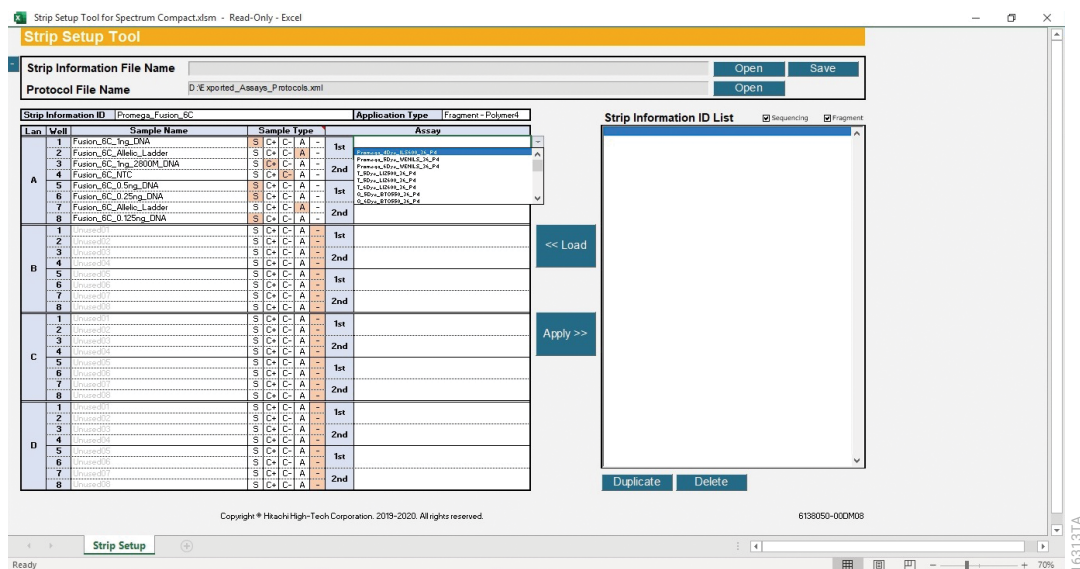

Figure 246. Strip Setup Tool for Spectrum Compact with Assay pull-down menu.
- To assign an assay to an injection set (set of four wells), select the cell under the Assay column to the right of the cell labelled 1st. This will activate a pull-down menu (Figure 246). Select the desired assay from the available list. Repeat for all injection sets.
- a. An asterisk appears in front of the newly created strip file name in the Strip Information ID List prior to saving the strip information as a .xml file. After saving as a .xml file, the asterisk disappears (Figure 246).